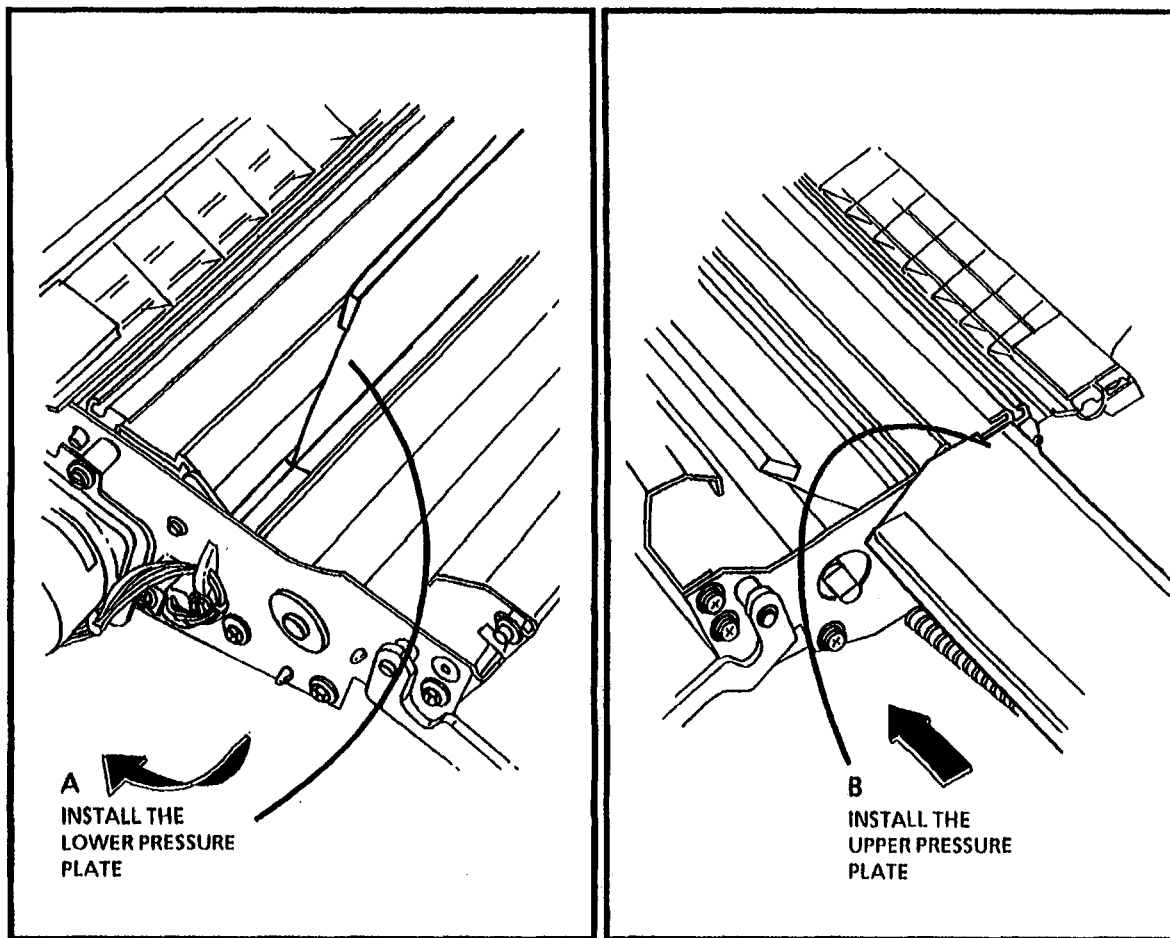

Figure 6. Reinstall the Pressure Plates
3. (Figure 6): Reinstall the Pressure Plates.